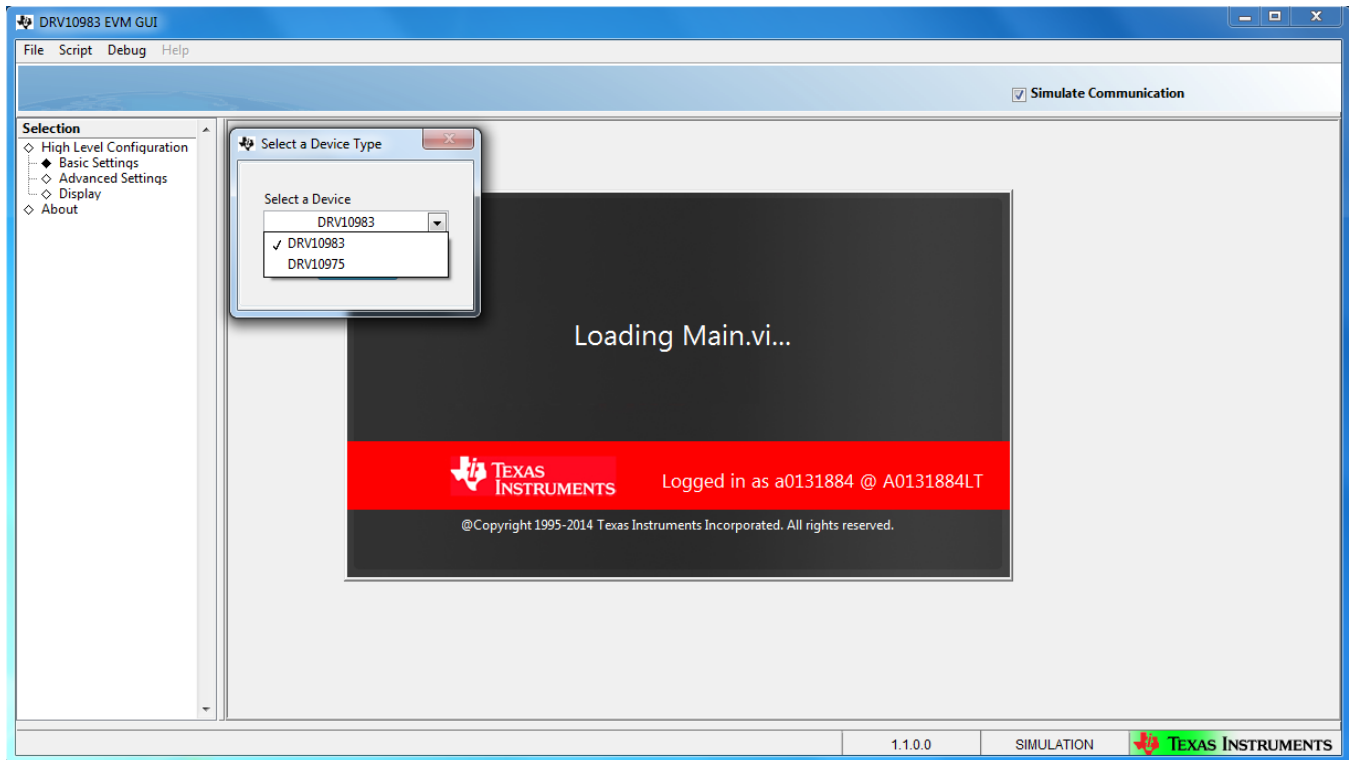

Figure 5. Initial GUI Screen
6. Launch the DRV10983-75.exe application on the computer. Select the appropriate device configuration as shown in Figure 5 and press OK.